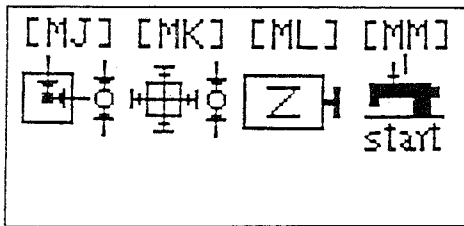

Fig. 1 Mode selection screen
- 1) Turn ON the main power to the machine. Press the **M** key to make the [MM] flash on and off. Then, press the  key to select the machine head independent operation mode. (Fig. 1)